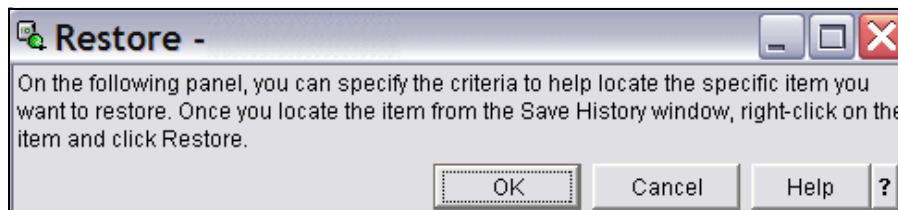

Figure 5-82 Restore Domino data with BRMS, restore information
2. Read through the information screen that pops up as shown in Figure 5-82, and click **OK**.